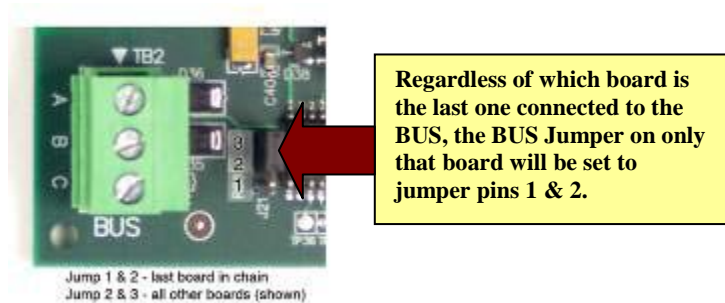

Figure 8: Location of BUS Jumper Pins
Step 3: The expansion boards have a terminating resistor that should be enabled for the last board in a chain. Ensure that the jumper is on pins 2 & 3 for all boards except the last one. On the last board connected, jump pins 1 & 2 (Figure 8).